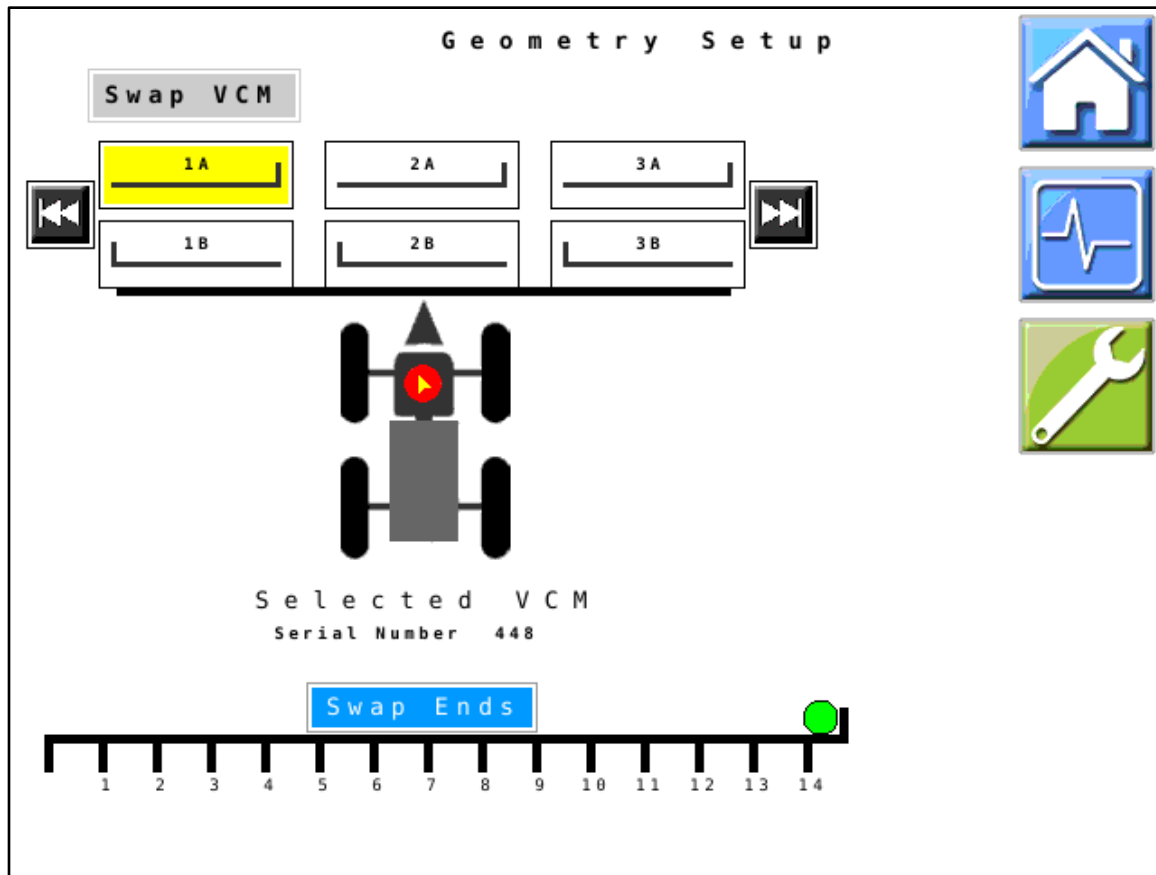

Figure 4 — Geometry Setup
- Figure 4:* VCMs must be in the correct order and orientation on the boom. If there is only one VCM connected to a hub CAN channel, use the **Swap Ends** icon  with that VCM highlighted to orient the VCM correctly on the boom. VCMs can be mounted with the tube towards the center of the machine (green dot) and the pigtail running towards the outside tip, or vice versa.